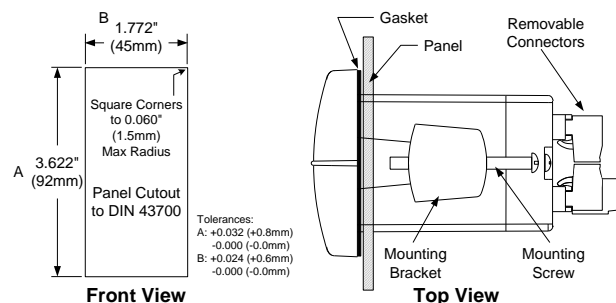

Figure 2. Panel Cutout and Mounting
- Prepare a standard 1/8 DIN vertical panel cutout – 1.772" x 3.622" (45 mm x 92 mm). Refer to *Figure 2* for more details.